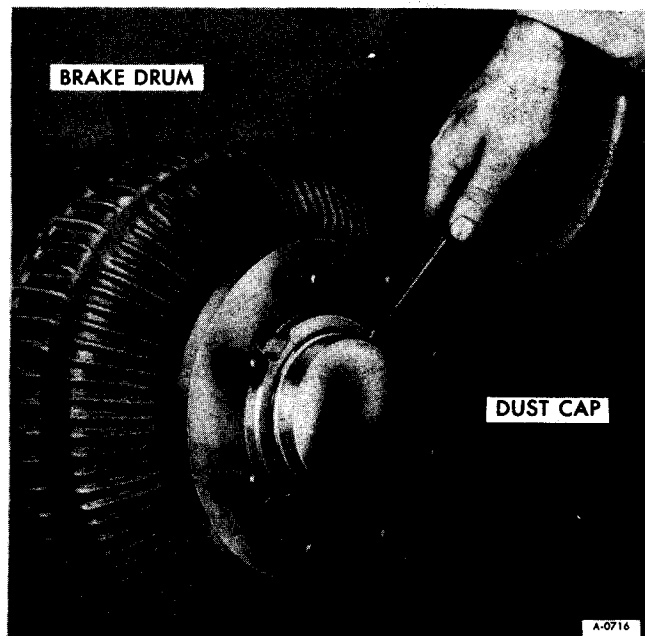

Figure 4—Removing Dust Cap
3. Remove outer dust cap as shown in Figure 4, and then inner cap.